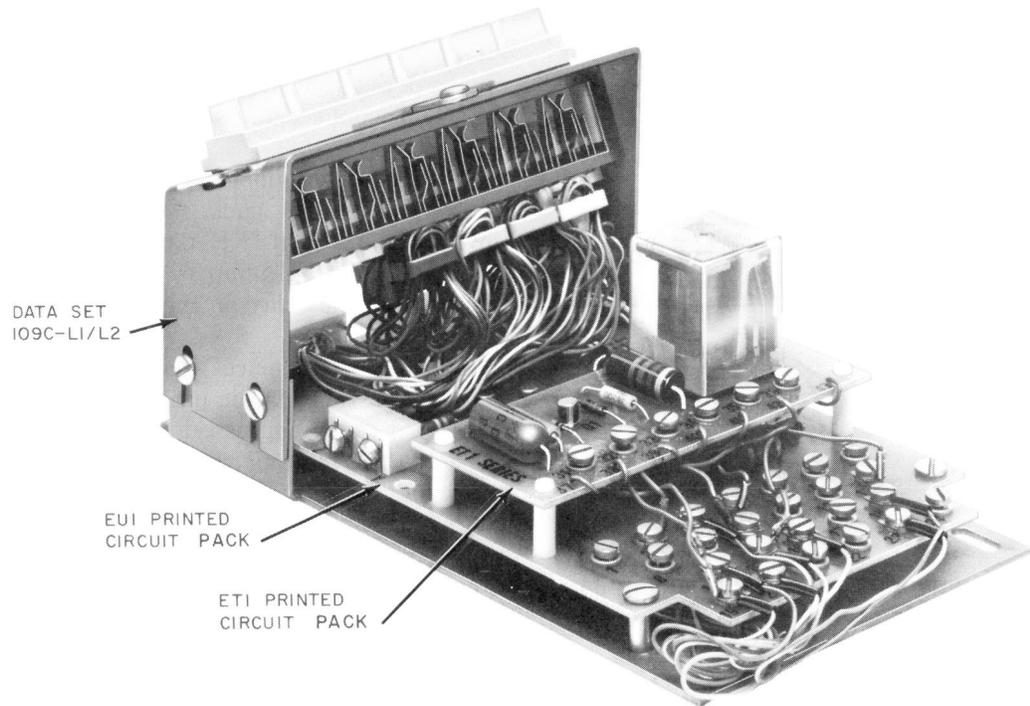

Fig. 2—Data Set 109C-L1/2
3.02 Data Set 109C-L1 includes an EU1 circuit pack which functionally consists of a transmitter, a receiver, and a built-in line pad. See Fig. 2.